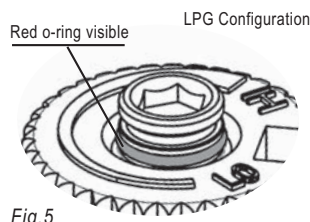

Fig. 5
- 17) Verify that if the conversion is from NG to LPG, the screw must be re-assembled with the red o-ring visible (Fig. 5).